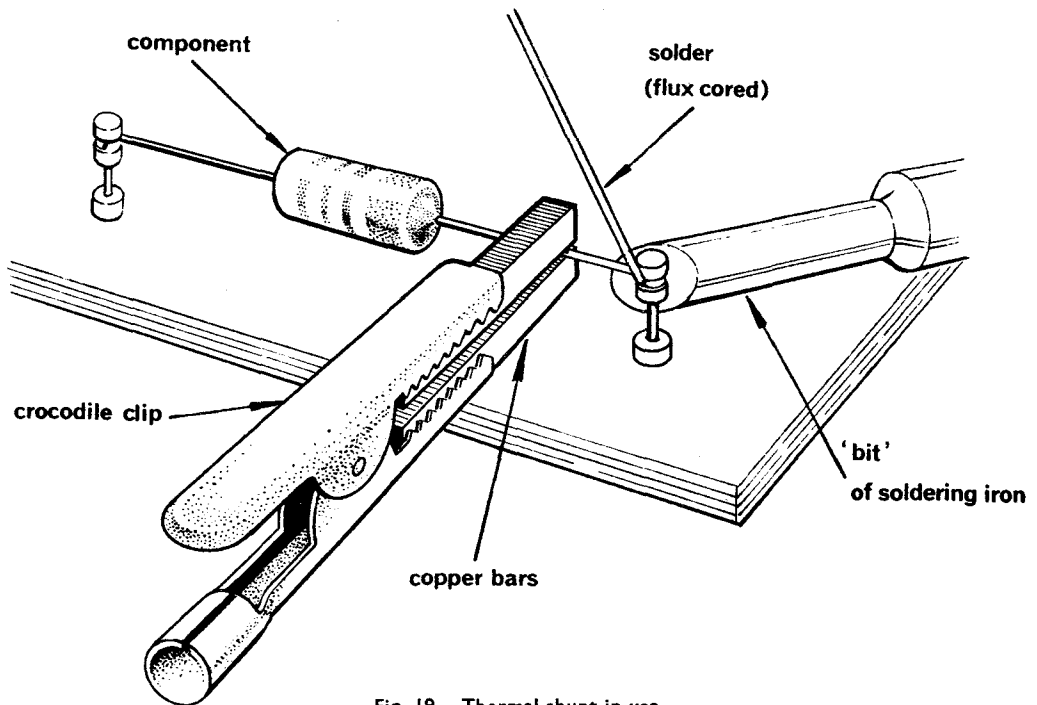

Fig. 19. Thermal shunt in use
27. Heat sinks. Some components (e.g. transistors) are easily damaged by heat and must be protected during the soldering operation. A thermal shunt (Fig. 19) can be made by sweating copper bars into the jaws of a crocodile clip. When in use the shunt is clipped to the wire between the component and the joint (as near the joint as possible) so that heat is absorbed by the copper bars and does not reach the component. When soldering leads to miniature connectors, the connector should be mated and heat applied for the shortest possible time. The mated connector will act as a heat sink for the one being soldered and help to prevent damage to the insulation.